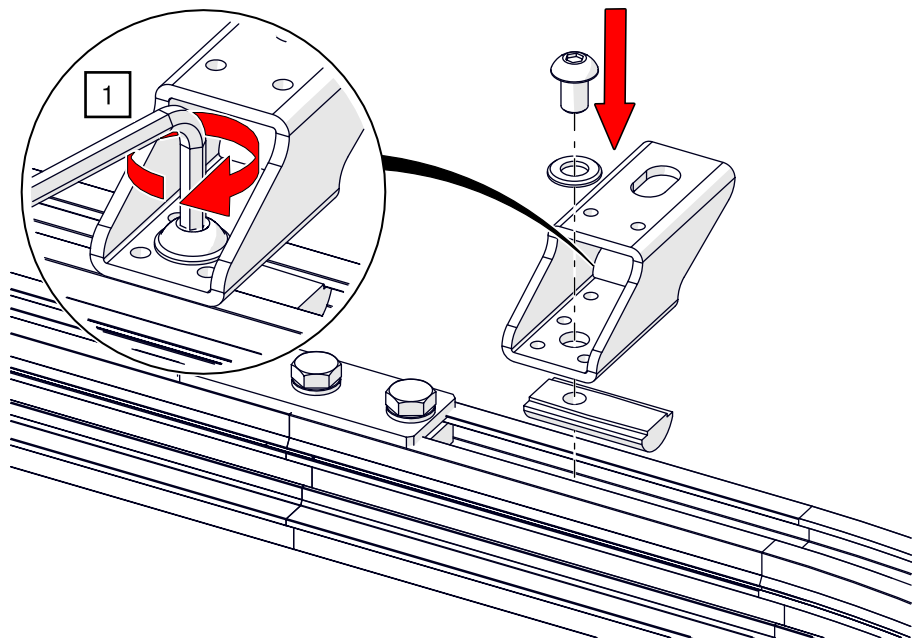

Fig. 49: Ceiling mounting – Mount suspension on the track profile
1. Insert the T-slot nut loosely into the track profile and mount the suspension (see Fig. 49).